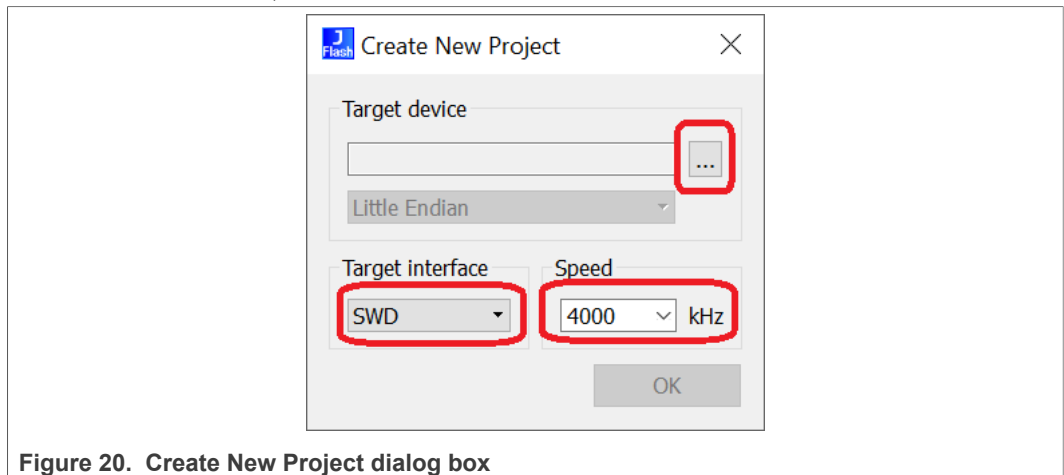
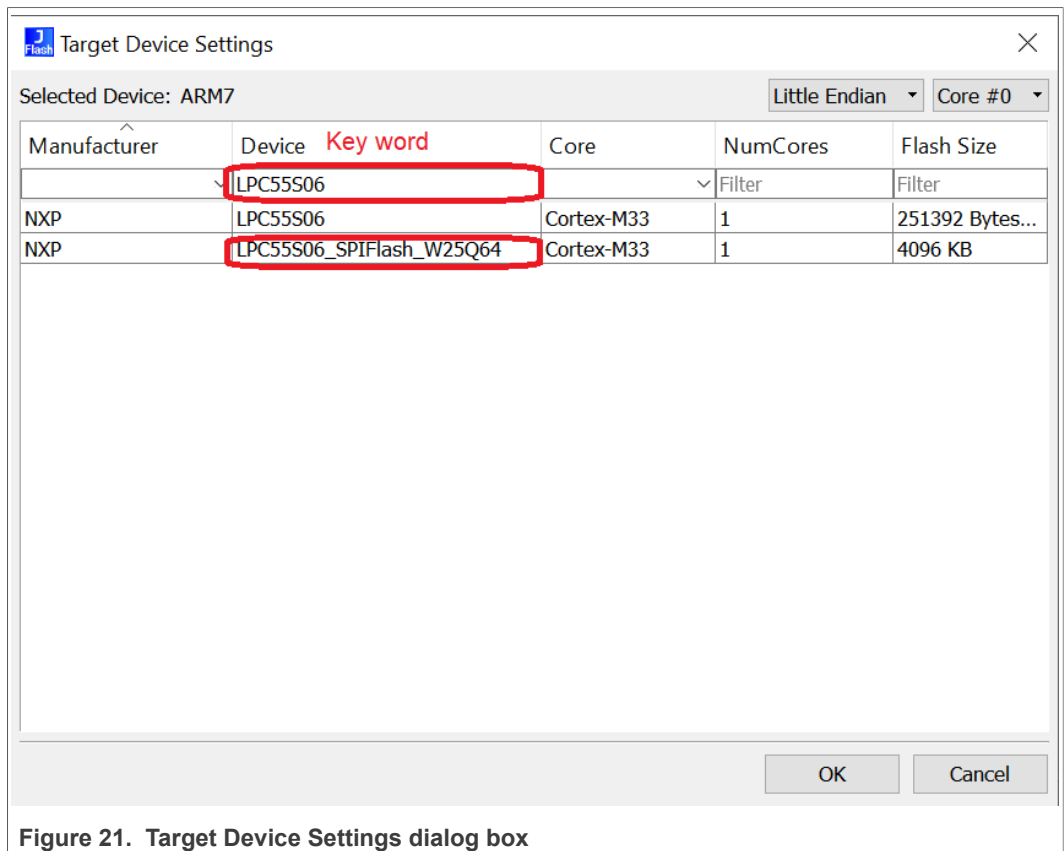
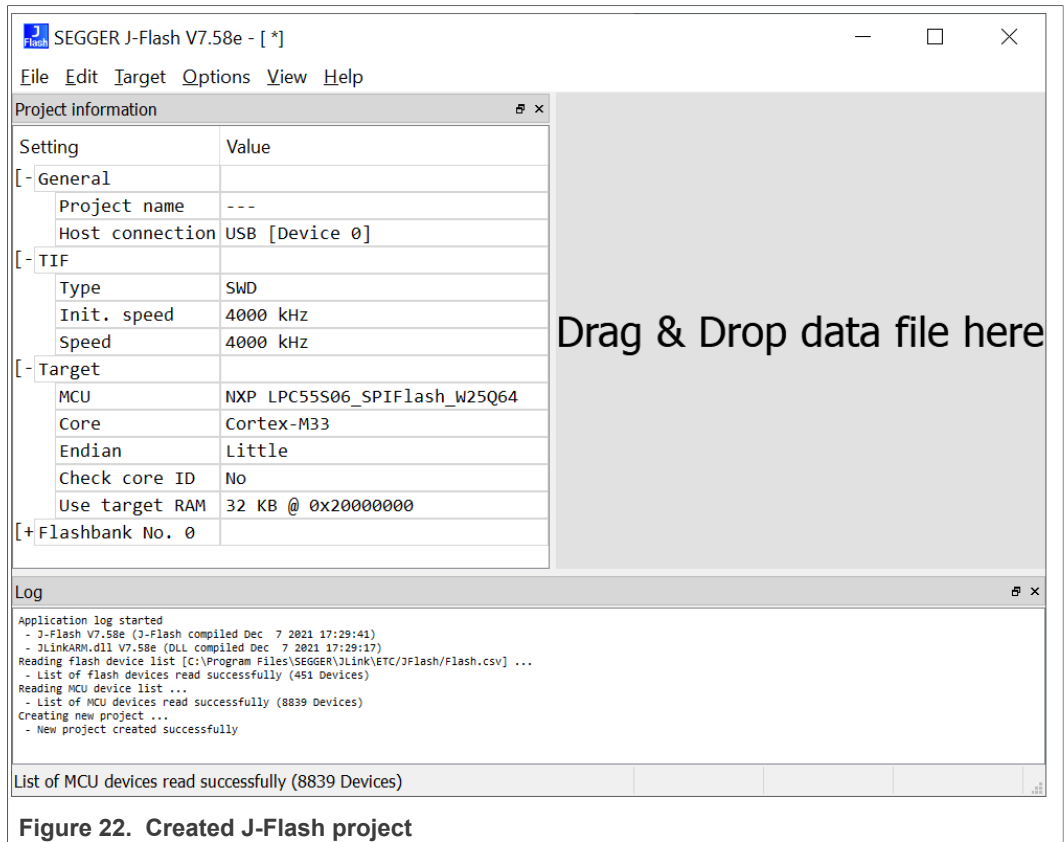

Figure 20. Create New Project dialog box
Figure 21. Target Device Settings dialog box
Figure 22. Created J-Flash project
- d. Click **File** -> **New project**, and the **Create New Project** dialog box pops up, as shown in Figure 20. Select **Target interface** and **Speed** according to the actual situation. Here, we select **SWD** and **4000 kHz**.
- e. Click **...** button and the **Target Device Settings** dialog box pops up, as shown in Figure 21. Since the target device is LPC55S06, use **LPC55S06** as key word to search the desired target device.
- f. In Figure 21, click **OK** to return Figure 20. In Figure 20, click **OK** to complete project creation, as shown in Figure 22.